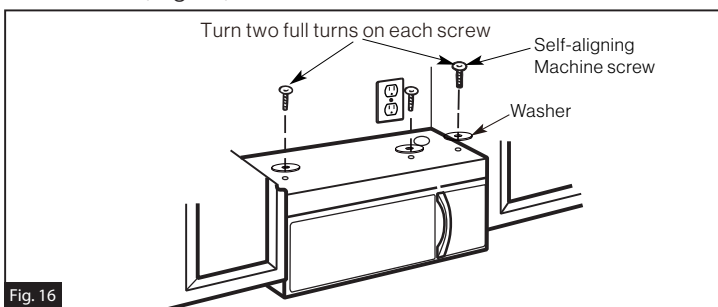

Fig. 16
2. Insert 2 self-aligning machine screws ($\frac{1}{4}$ "-20 x 3") through outer top cabinet holes. Temporarily secure the oven by turning the screw at least two full turns after the threads have engaged. (It will be completely tightened later.) Be sure to keep power cord tight. Be careful not to pinch the cord, especially when mounting flush to the bottom of cabinet. (Fig. 16)